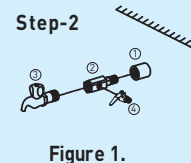

Figure 1.
1. Now connect one end of the white pipe to SS ball valve and another end to the upper push-fit elbow fitting to the left hand side of the purifier labeled as WATER IN, as shown in fig 1.